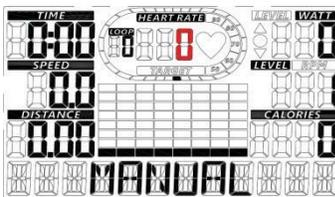

Fig. 19
- (e) To set Heart Rate, press UP(▲)/DOWN(▼) (Fig. 19) , When finish, press , press “START” to begin the workout or “SET” to go to TIME window for setting.